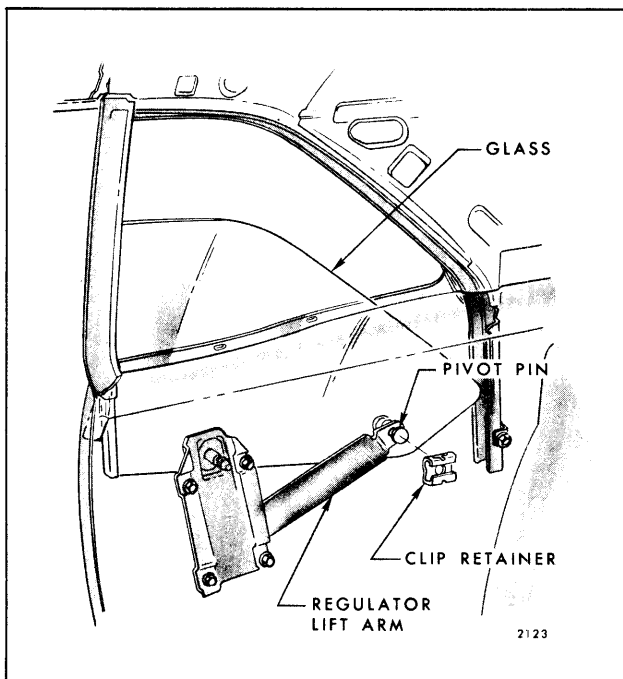

Fig. 7-5—Rear Quarter Window Attachment - Typical
2. Operate quarter window to the position illustrated in Figure 7-5.
**NOTE:** Figures 7-5, 7-6 and 7-7 are typical of rear quarters with the inner panels removed. These figures identify the component parts of the rear quarter hardware (by style), their relationship and various attaching points.